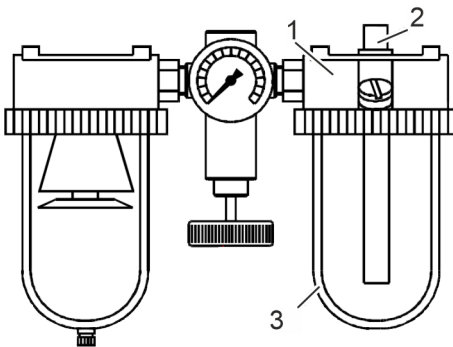

Fig. 16: Setting the oil mist lubricator
1. ➤ Check the oil level on the oil mist lubricator (Fig. 16/1). If the level is low, top up the oil Chapter 10.5 'Filling the oil mist lubricator' on page 51.
2. ➤ Set the oil quantity (drops per minute) during operation at the dosing screw (Fig. 16/2). The number of drops is visible in the sight glass.